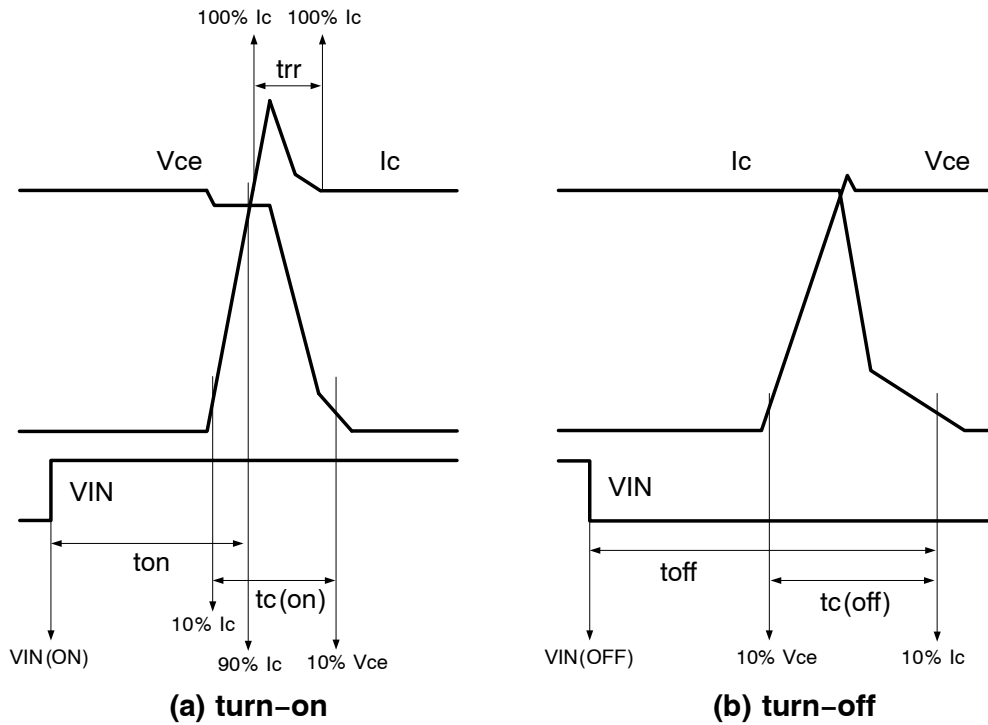

Figure 3. Switching Time Definition
| ton                   | Switching Times                         | VPN = 400 V, VDD = 15 V, Ic = 25 ATj = 25°CVIN = 0 V ↔ 5 V, Inductive LoadSee Figure 3(Note 3)            | –                        | 650  | –    | ns   |    |
3. ton and toff include the propagation delay of the internal drive IC. tc(on) and tc(off) are the switching times of IGBT under the given gate-driving condition internally. For the detailed information, please see Figure 3.